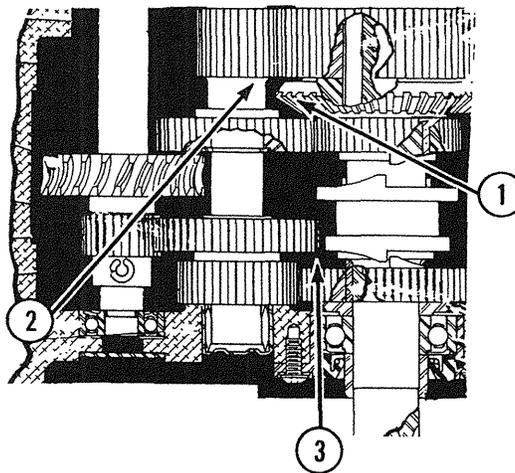
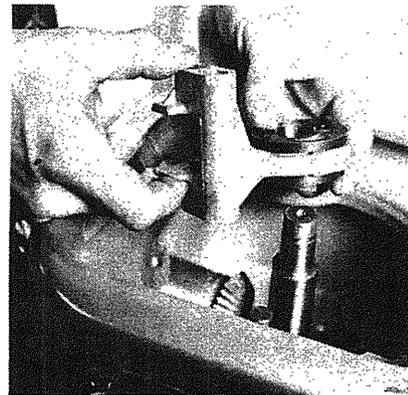

Fig. 3-11
Fig. 3-14
- J. Turn the center (planetary) shaft so the teeth of bevel gear (1, Fig. 3-11) will pass those on transmission shaft gear (2, Fig. 3-11).
- M. Remove clutch sleeve and shifter yoke (Fig. 3-14). When removing the clutch sleeve notice that the smaller diameter is down. This allows clearance for gear (3, Fig. 3-11) on the transmission shaft.
- G. Install shifter yoke with clutch sleeve (Fig. 3-14). Be sure clutch sleeve has smaller diameter down when installed or it will not clear the (33t) gear on the transmission shaft.